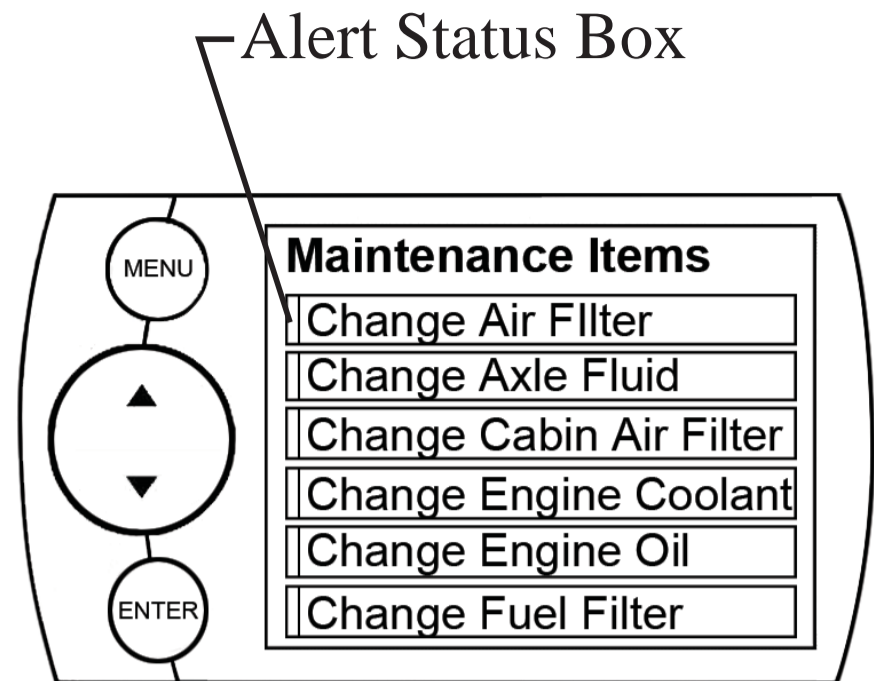

Figure 15
Other Maintenance Items not listed in Figure 15:
**NOTE: Refer to Figure 15. Once a Maintenance Item is turned on, the Alert Status Box to the left of the item will light up. If it is green, the item is not yet due for service. If it is yellow, the item is about to be due and within the specified Alert Threshold. If it is red,**